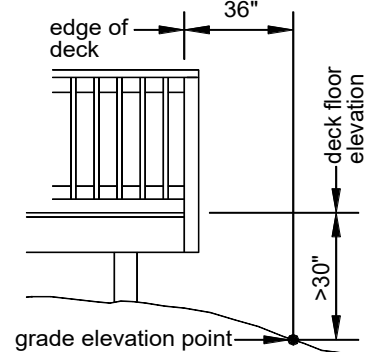

FIGURE 27: WHEN A GUARD IS REQUIRED
**General requirements.** A guard is required when a deck is greater than 30 inches above grade at a point 36 inches from the edge of the deck, as shown in FIGURE 27. Guards shall be constructed in accordance with the requirements herein; deviations are prohibited. Guards which are not required, but are nevertheless provided, must also comply with these requirements.